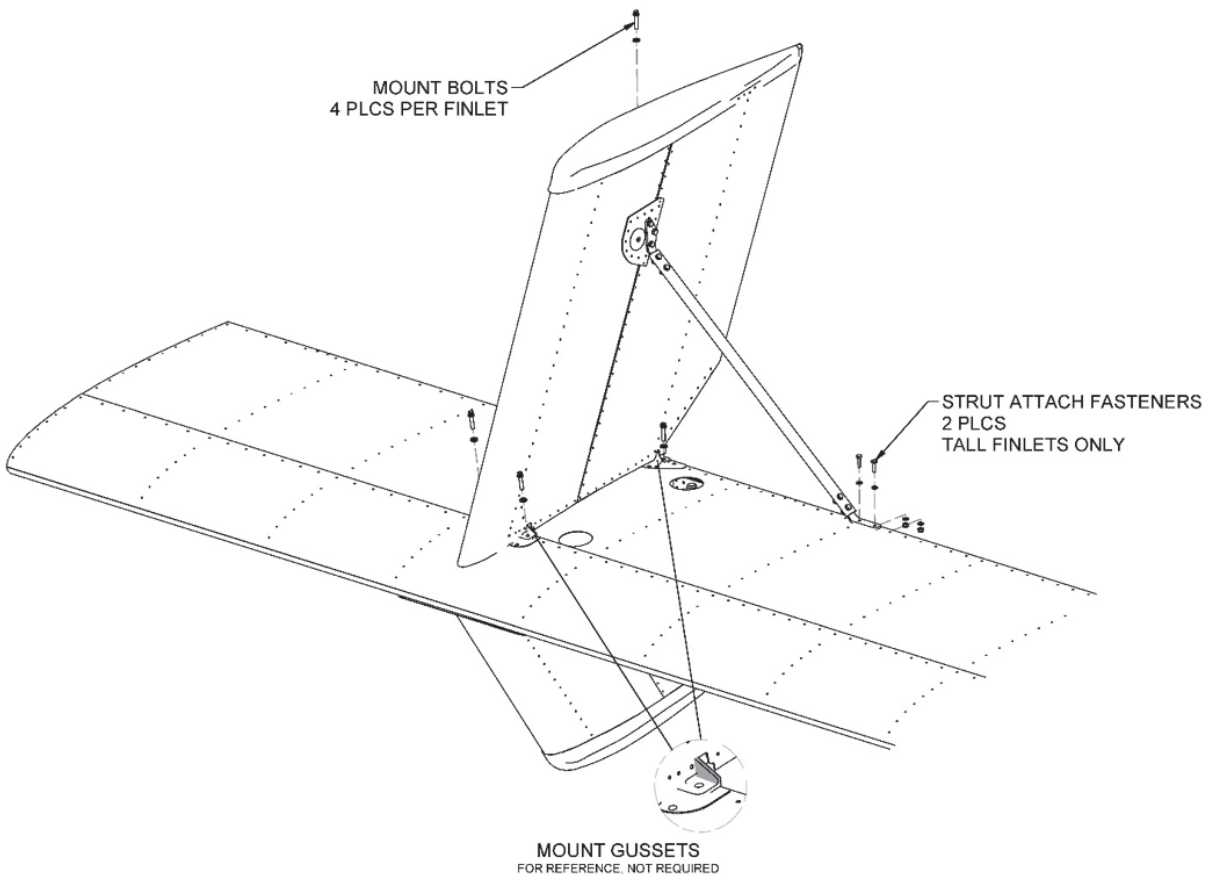

Figure 8
2. Remove finlets. Each finlet is fastened by (4) bolts at the mount weldments. If present, detach strut from horizontal by removing (2) bolts through aft spar. Refer to Figure 8.